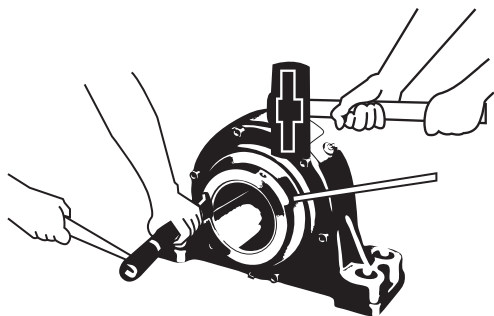

Figure 5
- Tighten (turn clockwise) nut at open end of housing. Use sledge and brass bar as in Figure 5 to break the cones loose on the adapter, thus allowing the adapter to loosen on shaft.